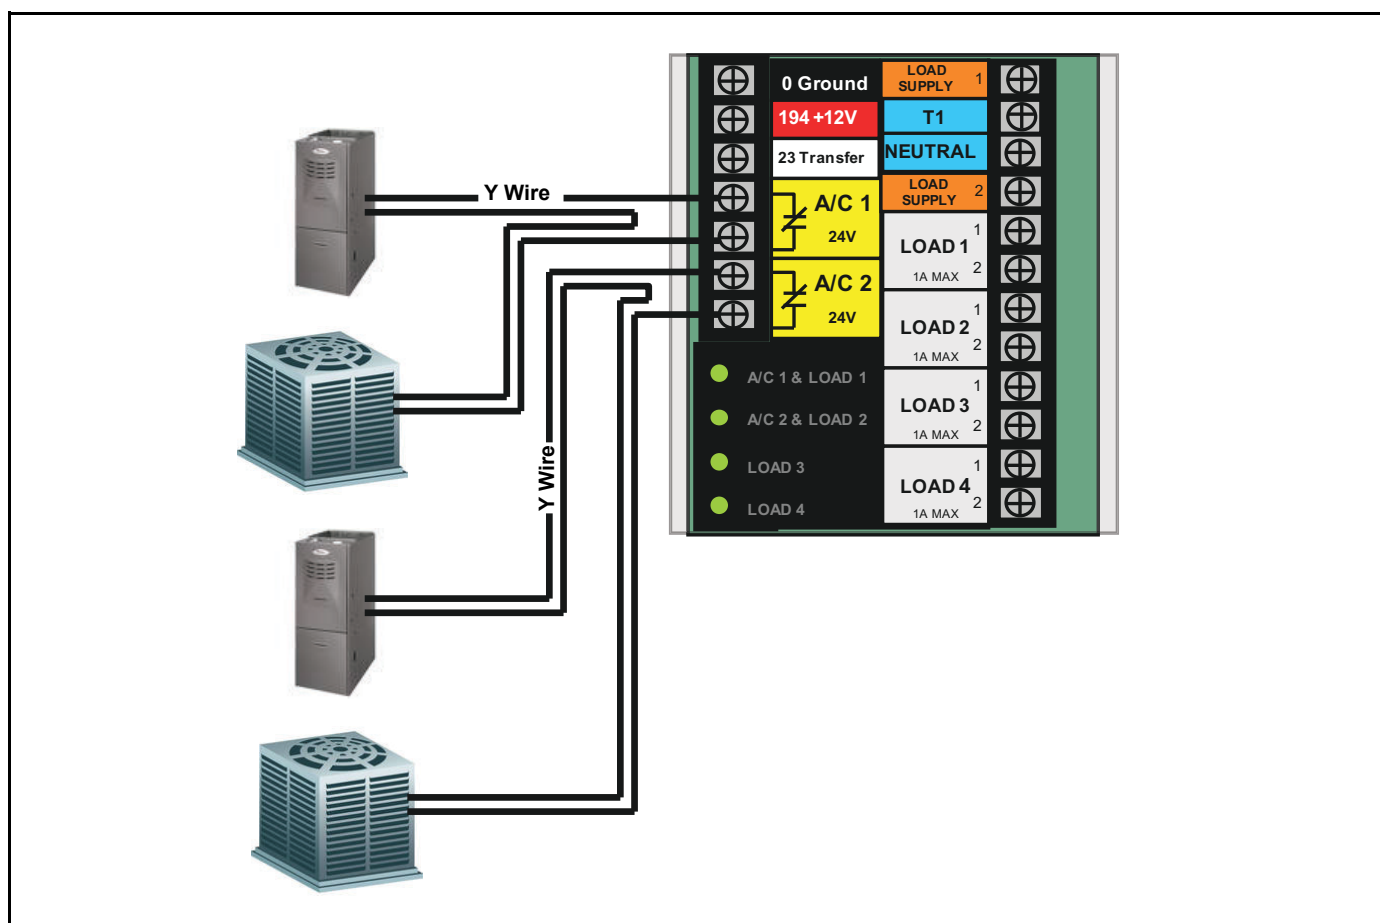

Figure 5-2. Connect A/C 1 and A/C 2 Wiring
1. Route the 24VAC thermostat control Y wire (from the furnace to the outdoor air conditioner unit) to the OPCB terminal strip. See Figure 5-2.